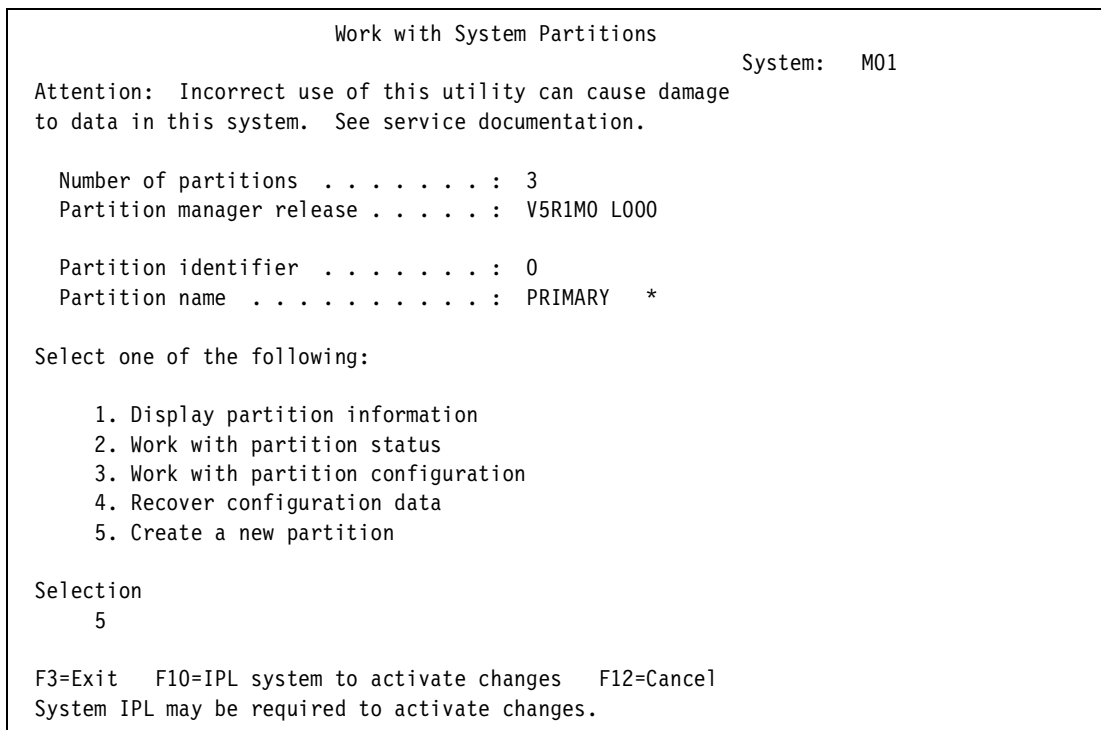

Figure 4-29 Work with System Partitions
4. Select option 5 (Create a new partition) as shown in Figure 4-29.